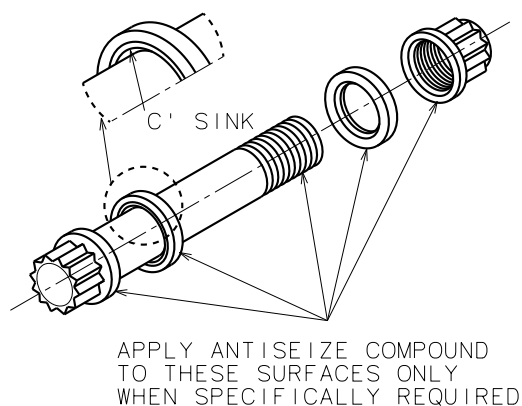

Figure 312 - Wheel Tie Bolts
**NOTE:** All Torque values listed on Cleveland Products are considered to be “DRY TORQUE” values unless a thread lubricant is specified conforming to either SAE AMS2518 (ref MIL-T-5544) or MIL-PRF-83483 (Molydisulphide) and applied to all friction surfaces as shown in Figure 312. Only use the thread lubricant specified for your wheel assembly.
- 2 Install bolts through brake disc and wheel halves. Both plain and countersunk washers may be used. Some designs use bolts that have a radius between the head and shank, which requires the countersunk washers. Inspect bolts and washers prior to assembly. (Ref. Figure 312). Properly oriented washers with countersunk surfaces to sit flush against the bolt head. Install washers and nuts on bolts (bolt heads are to be on brake disc side of wheel). Apply torque to the nut while holding the bolt head. Snug all the nuts in a crisscross pattern to seat the flange. Then torque the nuts to final value specified on wheel casting or nameplate, using a crisscross pattern until all nuts are properly torqued. Verify all bolts have been torqued properly by going around the bolt pattern with a torque wrench. Do not use power tools for the installation of nuts and bolts.